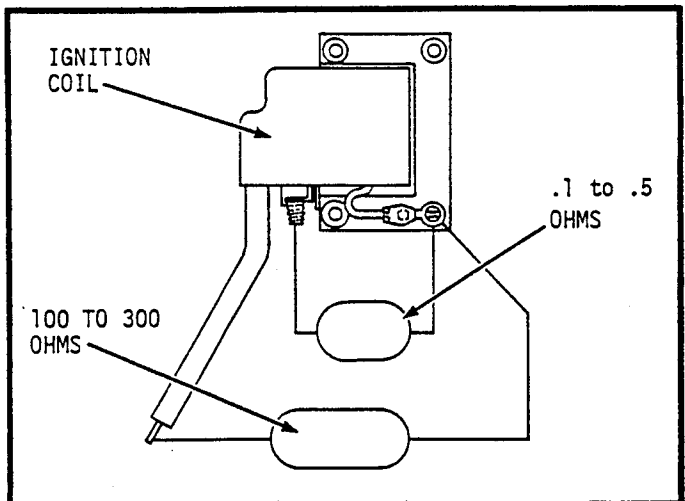

FIGURE 3-11 -- IGNITION COIL TEST
- STEP 3:** Remove the coil cover to expose the ignition coils. Check each coil separately. Remove the primary lead from the coil (red or white lead). Connect one ohmmeter lead to the primary terminal stud on the coil. Connect the other ohmmeter lead to the ground connection at the coil. (See Fig. 3-11) The ohmmeter should indicate .1 to .5 ohms. Because of the low primary resistance, make certain the ohmmeter has been set to zero. Remove the ohmmeter lead from the ground connection and connect it to the spark plug wire terminal. The ohmmeter should indicate 100 to 300 ohms. If the above readings are not obtained, the coil is defective and must be replaced. Use the same procedure to test the other coil. (Check high tension lead before replacing coil.)